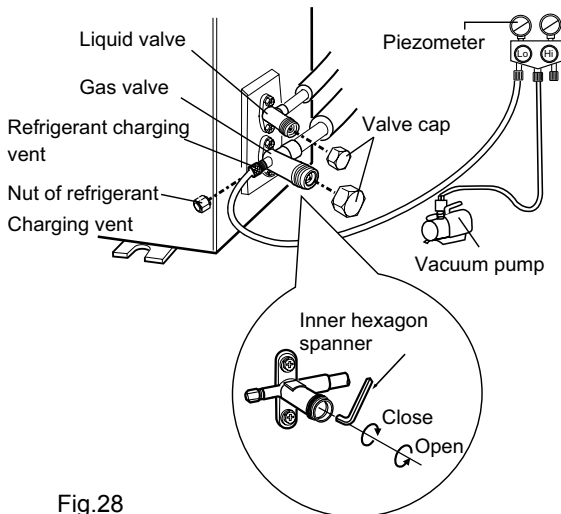

Fig.28
- (1) Remove the valve caps on the liquid valve and gas valve and the nut of refrigerant charging vent.
- (2) Connect the charging hose of piezometer to the refrigerant charging vent of gas valve and then connect the other charging hose to the vacuum pump.
- (3) Open the piezometer completely and operate for 10-15min to check if the pressure of piezometer remains in -0.1MPa.
- (4) Close the vacuum pump and maintain this status for 1-2min to check if the pressure of piezometer remains in -0.1MPa. If the pressure decreases, there may be leakage.
- (5) Remove the piezometer, open the valve core of liquid valve and gas valve completely with inner hexagon spanner.
- (6) Tighten the screw caps of valves and refrigerant charging vent.(As show in Fig.28)
- (7) Reinstall the handle and the valve cover(if available).